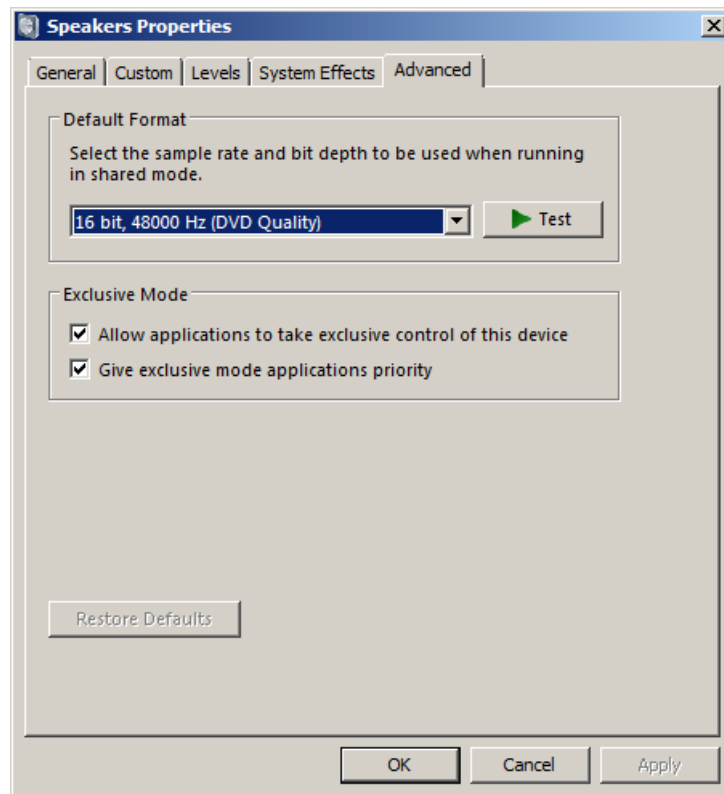

Figure 4.11 Setting the native bit resolution and sampling rate in Vista
- 4) Click on the tab '**Advanced**' to set the channel resolution and a sample rate (as in Fig. 4.11)